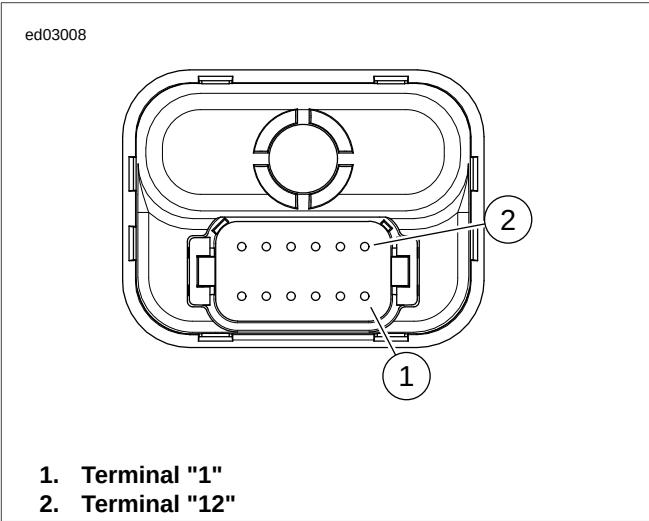

Figure E-13. TSM/TSSM Connector Pins
3. See Figure E-13. Depress latches on harness connector [30B].
1. See Figure E-13. Depress latches on connector [30B].